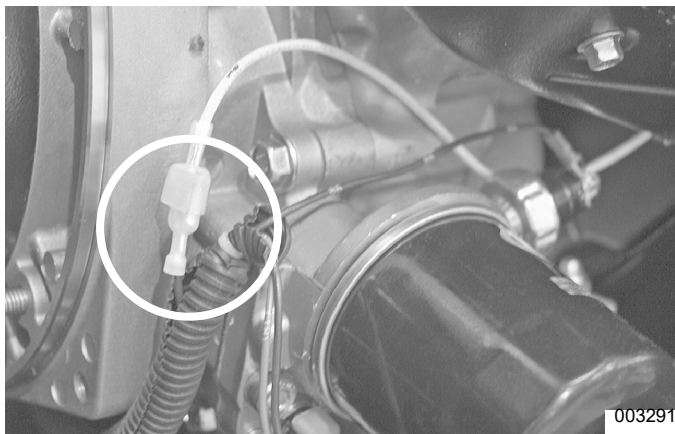

Figure 4-19. Wire 18 (410cc Engine)
3. See Figure 4-19. Disconnect Wire 18 from magneto.